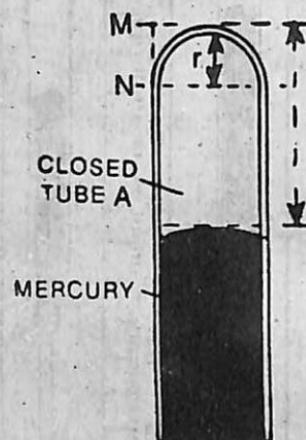

Fig. 25.2.
5. Take the reading at the top end of the closed tube at M with the help of a set square setting one of its edges parallel to the vertical scale and the other tangential to the curved surface. Take another reading of the closed tube at the point N (Fig. 25.2) where the curvature just ends. Find the difference MN and calculate the correct reading of the top of the closed tube A by subtracting  $\frac{1}{2}MN$  from the reading at M. Also take the reading of the mercury level in the tube A. The difference between the two readings gives the effective length of the air column ( $l$ ) which is proportional to the volume of the air enclosed. Thus find out the volume 'V' in each observation as explained above.